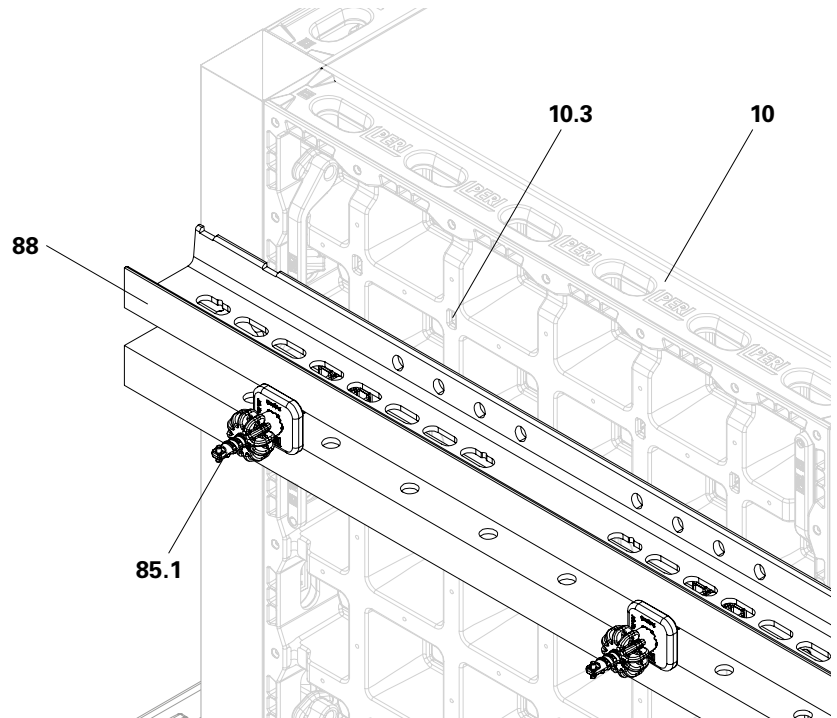

Fig. C1.17
1. Position the SRU steel waler at the height of the anchor strut of a DP panel (10). (Fig. C1.17)
2. Fit the DUO steel waler connector (85) to a connection point (10.3) on the DP panel (10) with a cross tie bolt (85.1) and turn the cross tie bolt through 90° (85.1).
3. Tighten the DUO steel waler connector (85) with the DW 15 grip (85.2), while ensuring that the connector plate (85.3) is positioned correctly.
4. Mount each SRU steel waler with at least two DUO steel waler connectors. (Fig. C1.17)
5. Mount at least two SRU steel walers (88) for each DP 135 panel using DUO steel waler connectors (85).